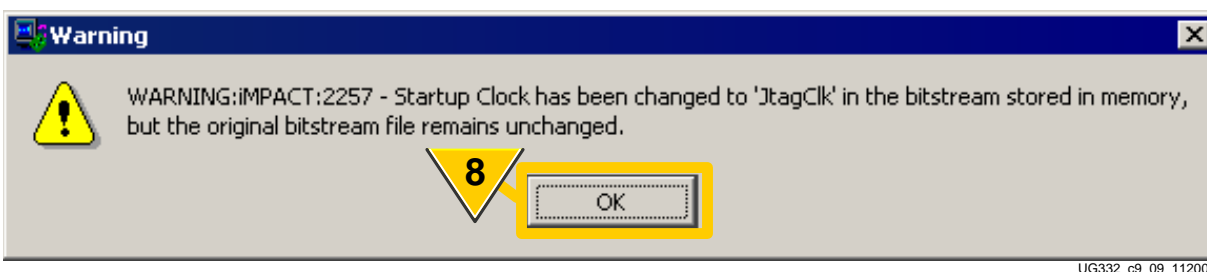

Figure 9-11: iMPACT Automatically Adjusts FPGA Startup Clock for JTAG Configuration
8. As shown in Figure 9-11, the iMPACT software automatically detects that the FPGA bitstream was generated for a non-JTAG configuration method. The iMPACT software automatically adjusts the Startup clock setting for successful JTAG configuration (*StartupClk:JtagClk*). The original bitstream file is unaffected.